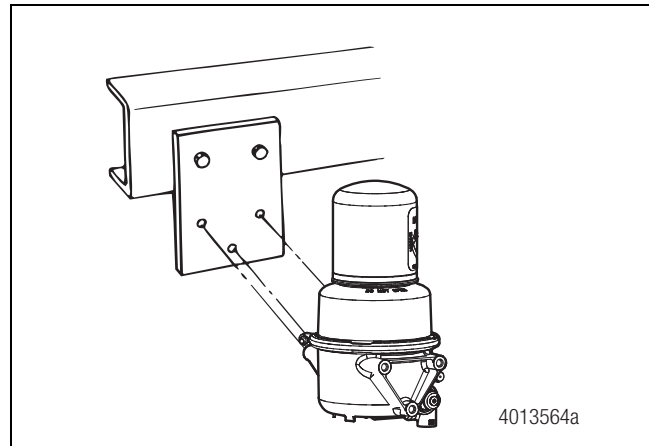

Figure 2.11
4. Attach the new unit to the frame or mounting bracket with new mounting bolts and washers. Tighten the bolts to 22-30 ft-lb (30-40 N•m). Figure 2.11.